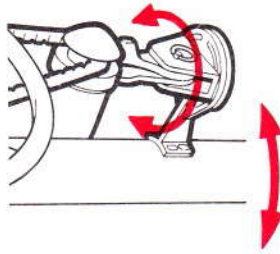

Fig.12
- Push the bracket downwards against the pedestal until the belt is just taut. By sliding the pedestal bracket around the pedestal and rotating the clevis bracket ensure that the belt lies parallel to the wheel (Fig. 12).